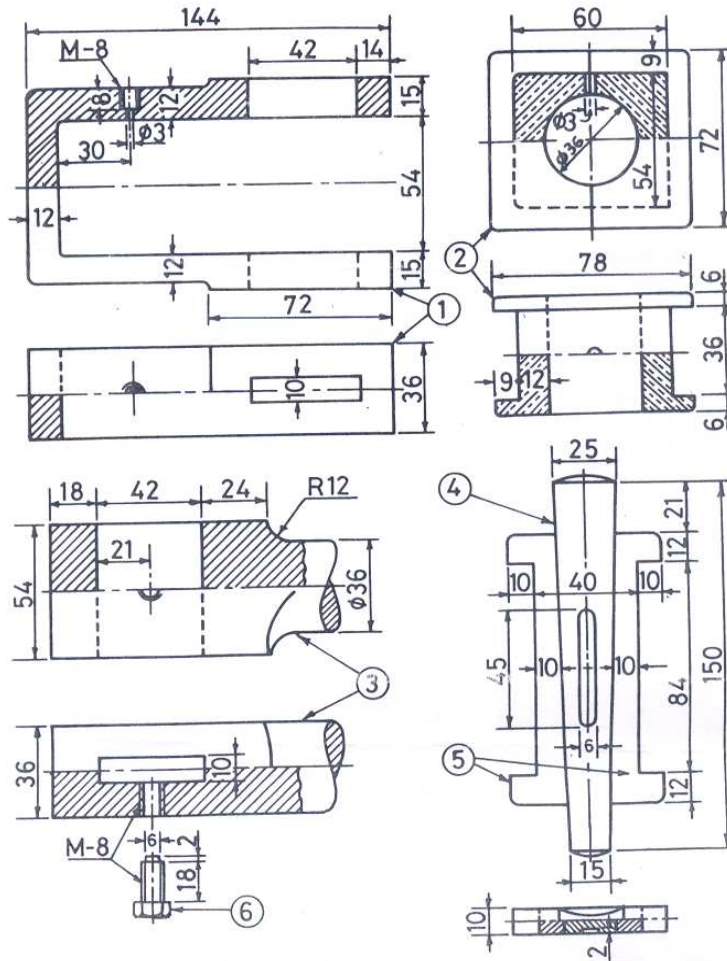

Figure 3:
2. Assemble the parts of Strap-type connecting rod end and draw.(figure 3)